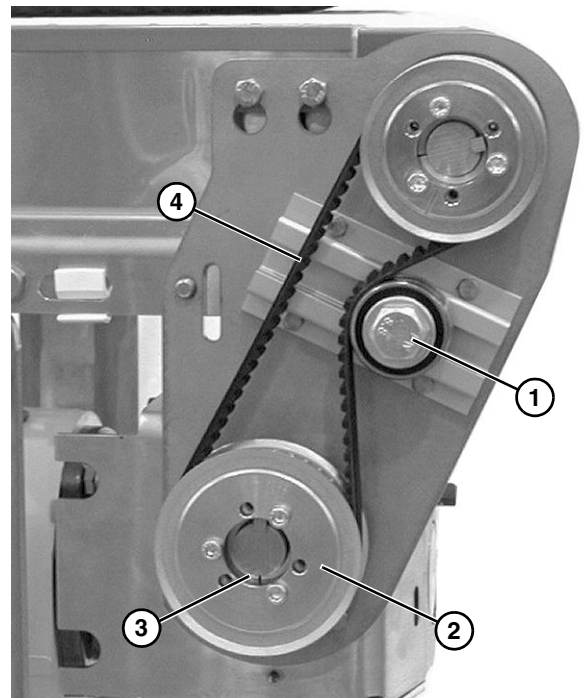

Figure 19
*If drive pulley (**Figure 19, item 2**) is replaced, wrap timing belt around drive pulley and complete step 3.*
2. Loosen tensioner screw (**Figure 19, item 1**).
3. Remove pulley (**Figure 19, item 2**), taper hub assembly (**Figure 19, item 3**), and timing belt (**Figure 19, item 4**).